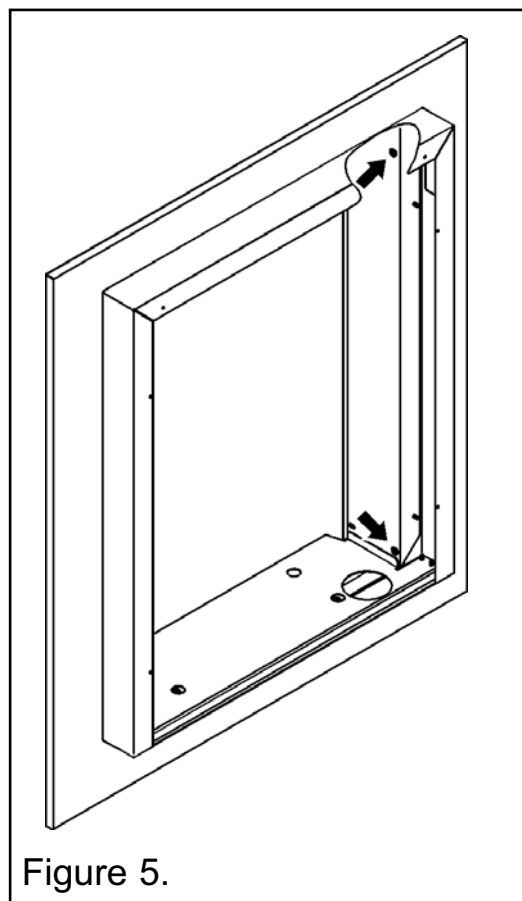

Figure 5.
Method 2 of 2 - Fitting the Inner frame recessed into the builders opening with only the front section of the inner frame assembly forward of the builders opening (See figure 5).
3. Align the four holes located near the middle of the inner frame assembly with those in the flanges of the rear panel (See figure 5).